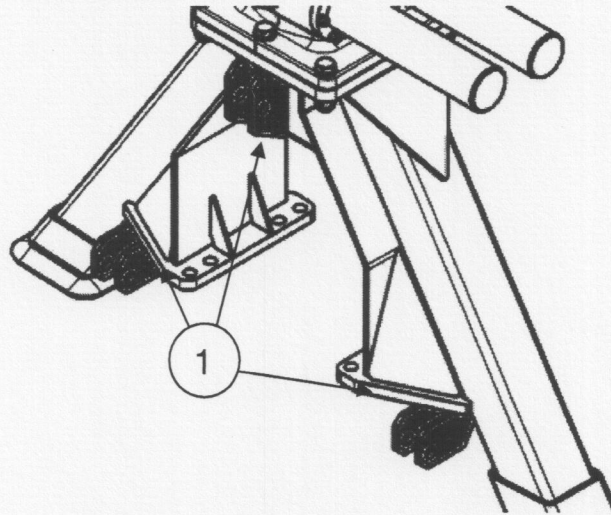

Figure 5.1 3-point linkage junctions on A type support leg
Before mounting crane to the 3-point linkage (pos.1, fig. 5.1) make sure that: